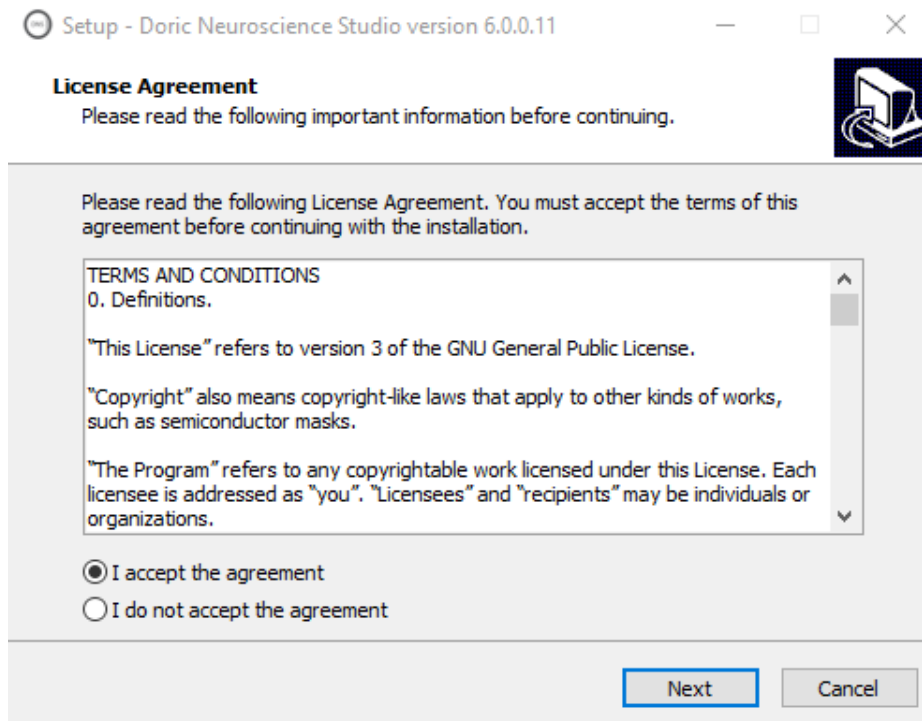

Figure 4.2: Doric Neuroscience Studio License Agreement
4. In the license agreement window (Fig. 4.2), accept the agreement and click **Next** to continue the process.